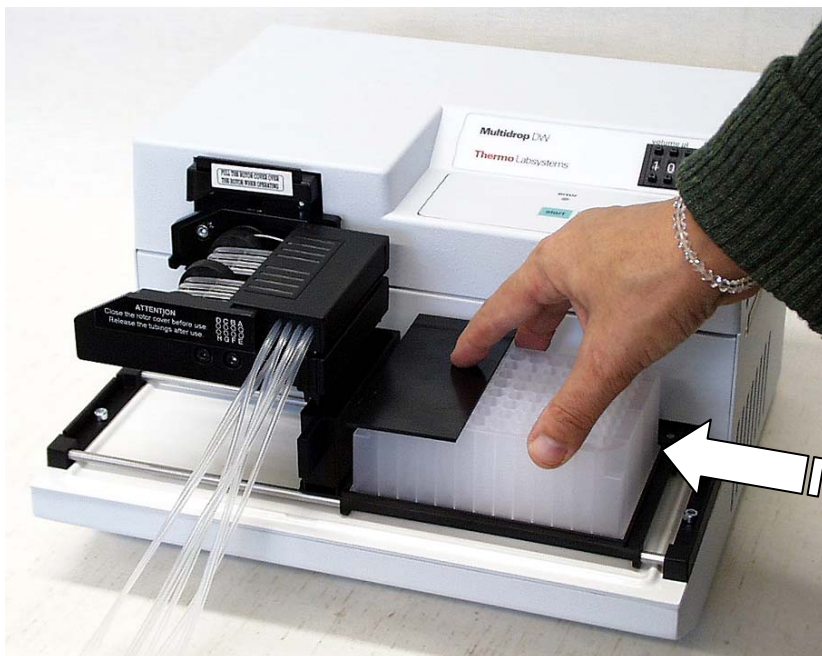

Fig. 6.18 Moving the deep-well plate and adjustment plate under the dispensing cassette
4. After that manually move the deep-well plate and the adjustment plate carefully under the pump rotor (Fig. 6.18). Do not move the plate under the dispensing cassette against the tips with force. The tips might get bent or deteriorated.